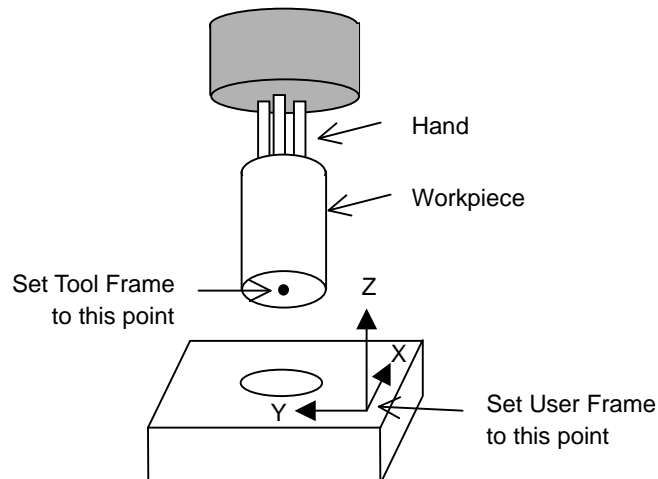

Fig.3.2(a) Set the user frame and tool frame
- 1 Specify the tool frame and user frame as shown in Fig.3.2(a).
- 2 Select the tool frame and user frame specified above, and then create a robot operation program as shown in Fig.3.2(b). Add an approach point, where the robot switches from normal position control to force control, to the program and teach its position.
Several functions are provided for force control (see Section 3.3, "FORCE CONTROL INSTRUCTIONS"). The way to teach an approach point slightly varies from function to function. Refer to Fig.3.2(c) and teach this point correctly.